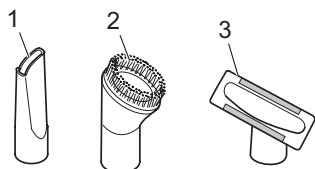

Fig.6
- **Crevice nozzle (Fig. 6/1)**
- **Furniture brush (Fig. 6/2)**
- **Upholstery nozzle (Fig. 6/3)**